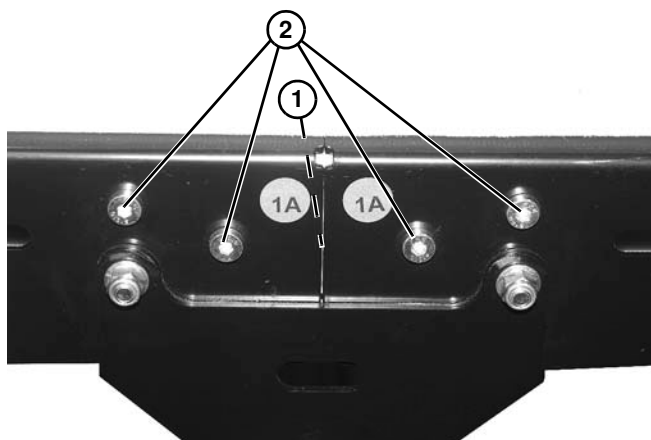

Figure 7
- Join conveyor sections and install connector brackets (**Figure 7, item 1**) and screws (**Figure 7, item 2**) on both sides as indicated. Tighten screws to 7 Nm (60 in lbs).